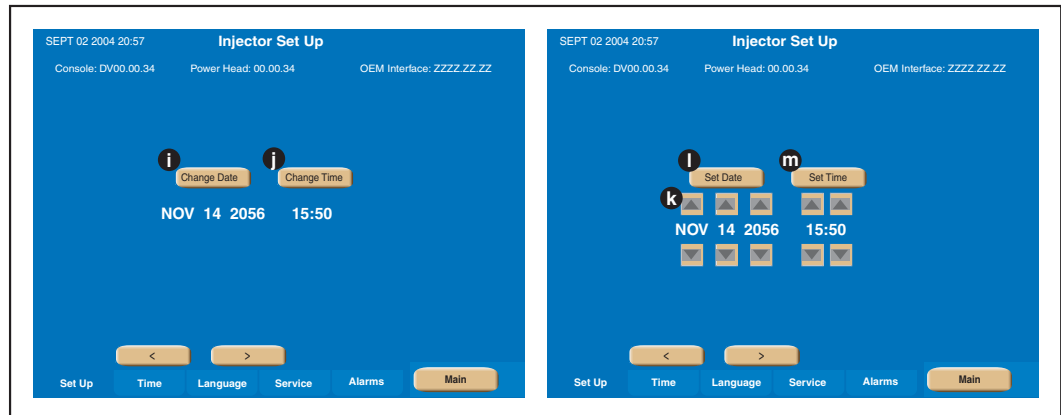

Figure 3-1-14 Setting the Time/Date
[Time] key (D) — This key allows the user to set the time and date. Refer to Figure 3-1-14.
Refer to Figure 3-1-14.